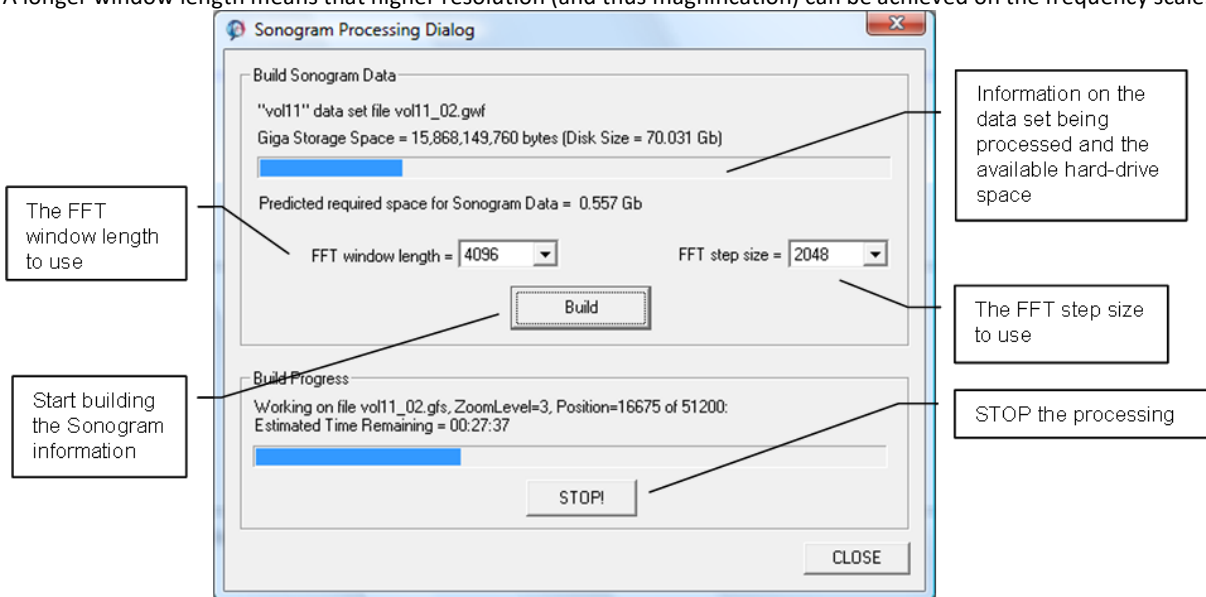

Figure 11-11: The Sonogram Processing Dialog Box
2. Click on the 'Build Sonogram' button to display the Sonogram Processing Dialog box (Figure 11-11).